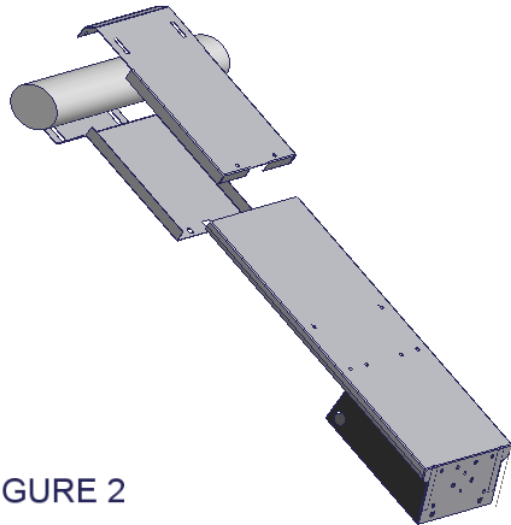

FIGURE 2
7. Refer to Figure 2 and place the Upper and Lower Adjustment pieces around the rear roll bar. Route the previously run electrical wires from the roll bar through them. Notice that the upper piece wraps outside of the lower piece on the top and sides. Also notice that that upper piece has nuts inserted, make sure that at the back of the two pieces that the upper piece is inside the lower piece, See Figure 3.